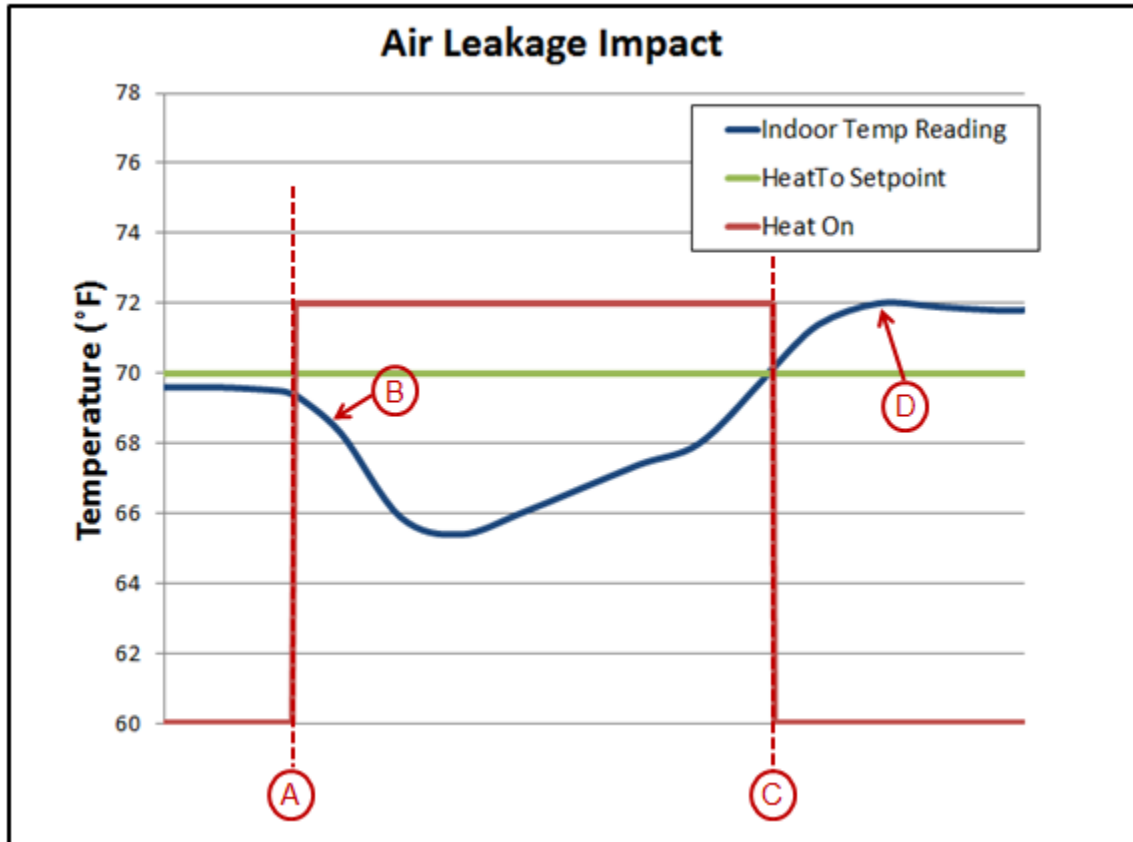

Figure 1: Example of the impact of air leakage on indoor temperature control
Figure 1 below shows an example of air leakage causing a thermostat to overshoot the desired temperature. When the indoor temperature drops below the differential temperature setting (0.5°F by default) the thermostat engages the equipment (A). If the wiring holes behind the installed thermostat are not properly sealed, air can leak into/out of the wall and across the thermostat when the blower begins running. The air leakage can cause the temperature reading to drop rapidly (B). The thermostat continues running the equipment until the indoor temperature reading, which is now lower than the actual indoor temperature due to the air leakage, reaches setpoint (C). With the equipment now off and air no longer leaking across the thermostat, the thermostat's temperature reading returns to normal and the overshoot of the actual indoor temperature above the setpoint can be seen (D).